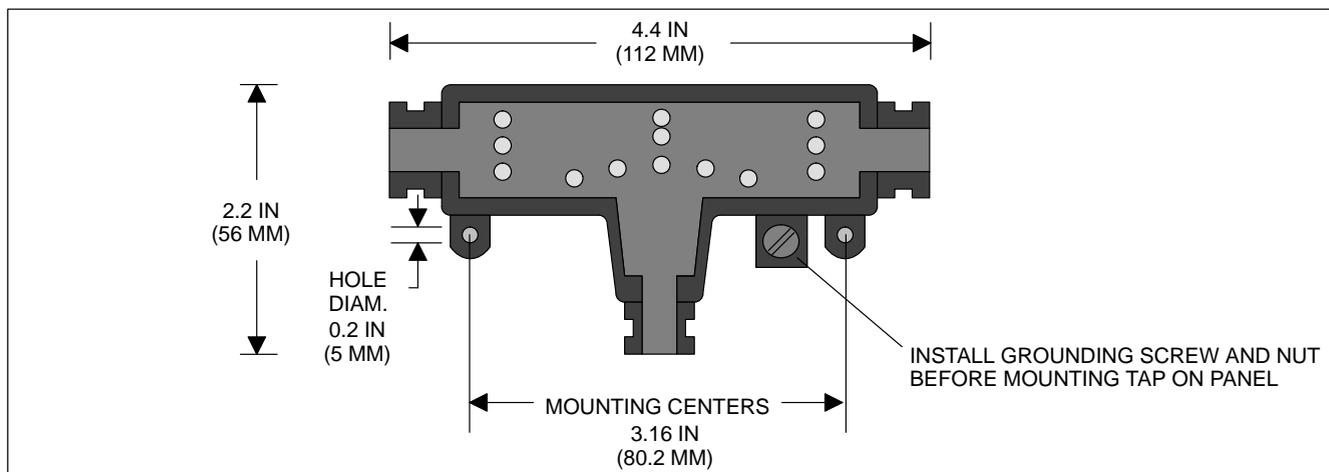
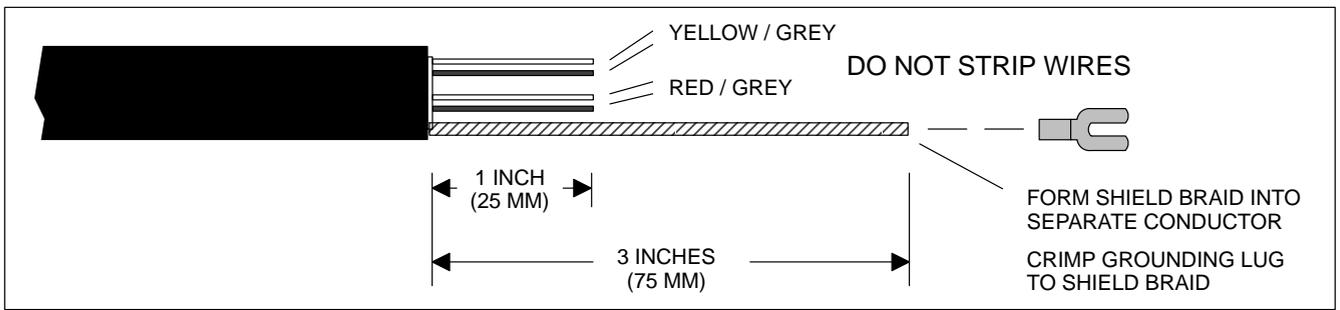

Figure 5 Tap Dimensions (Cover Open)
Figure 6 Preparing the Drop Cable
Before mounting the Tap to a panel, install the supplied grounding screw and nut onto the Tap as shown in Figure 5.
Install the Tap at its planned location. Figure 5 shows the Tap's dimensions.
To fabricate the drop cable, cut one RJ45 connector from the cable. Prepare the open end as shown in Figure 6.
- Strip the cable jacket to a length of 3 inches (75mm) as shown in Figure 6.
- Make the shield braid into a separate conductor, by separating it away from the wires (see Figure 6). Cut the shield braid to a length of 3 in (75 mm). Install a grounding lug on the end of the shield braid.
You should have already crimped the grounding lug onto the shield braid (see Figure 6). Connect the lug to the Tap's grounding screw as shown in Figure 5.